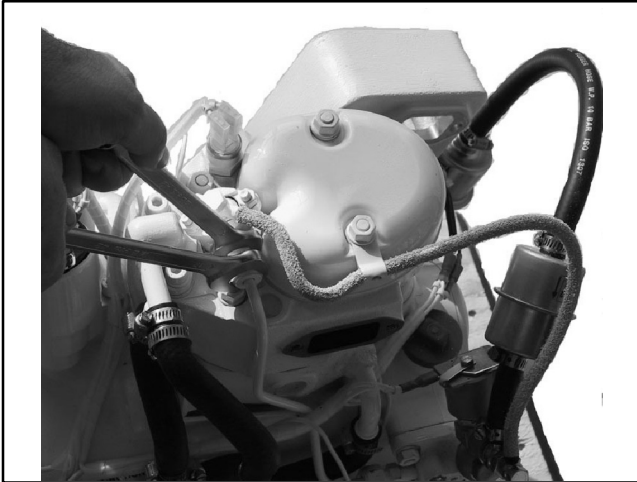

Figure 10-29 High Pressure Fuel Line on the Fuel Injector
- Repeat this procedure on the nut that connects the high-pressure line to the injector body. See Figure 10-29.